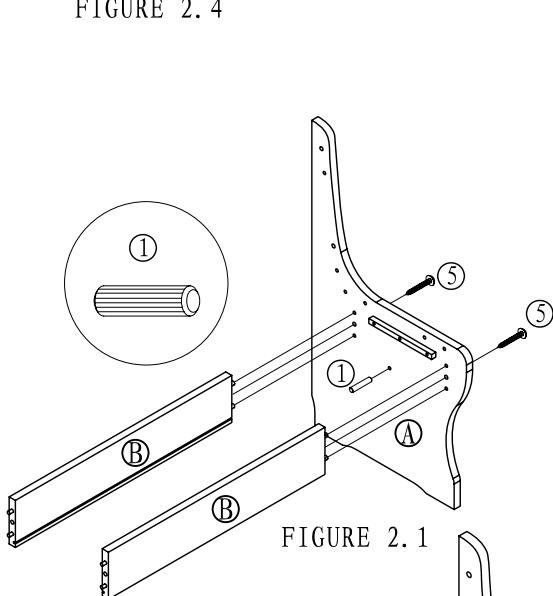

FIGURE 2.1
- 2.1 PLACE MIDDLE LEG #A USING (02) SCREWS ⑤ ON FLOOR. ATTACH SINGLE BENCH FRONT AND BACK RAILS #B (2X) TO MIDDLE LEG #A, INSERT (02) WOOD DOWEL ① INTO HOLES LOCATED ON THE MIDDLE LEG #A, AS SHOWN IN FIGURE 2.1